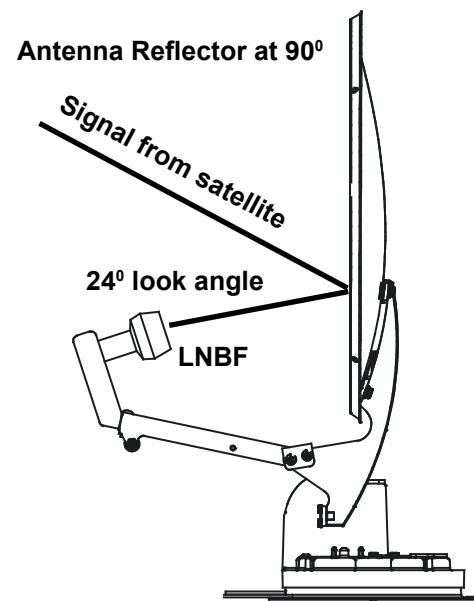

FIGURE 2
1. Be sure you have a clear line of sight. The signal from the satellite(s) **WILL NOT** pass through trees, buildings, mountains etc. Remember the antenna has a 24° offset, this means that when the antenna is straight up and down, (90°) it is looking 24° into the sky. See Fig. 2.